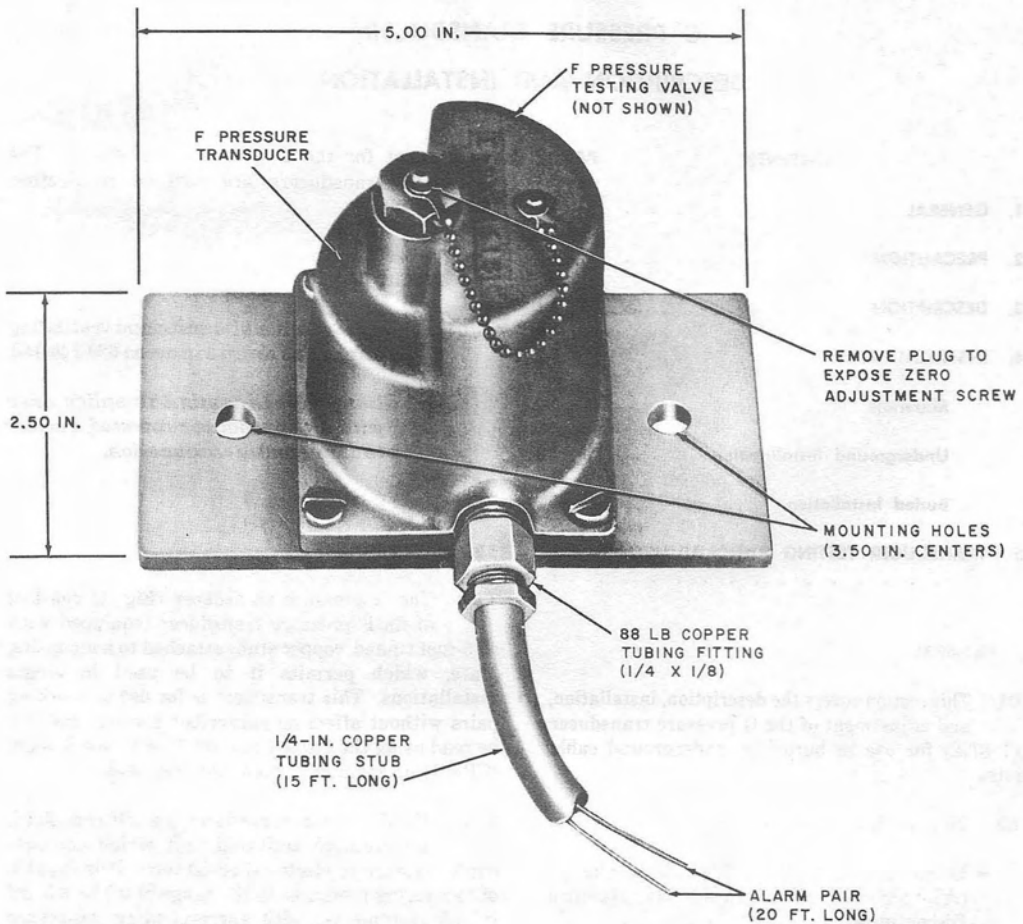

Fig. 1—G Pressure Transducer
3.01 The G pressure transducer (Fig. 1) consists of an F pressure transducer (equipped with a 15-foot tinned, copper stub) attached to a mounting plate, which permits it to be used in single installations. This transducer is for use on working pairs without affecting subscriber service, and can be read using the Cable Pressure Monitoring System (CPMS) or manually from the test desk.
**4.02** When required for underground installations, the G transducer (Fig. 1) and the associated materials should be installed as follows:
- (1) Attach the transducer to the manhole wall, away from splicing area, as follows:
- (d) Insert a screw through each mounting hole (Fig. 1) of the transducer into the anchor and turn it down until it seats firmly.
- (2) Prepare the copper tubing stub by cutting the tubing (using a tubing cutter) to a length which will reach between the transducer and the splice opening.
- (1) Remove the plug to expose the zero adjustment screw (Fig. 1).
- (2) Turn the zero adjustment screw (clockwise to decrease and counterclockwise to increase test desk voltmeter reading) until this reading ( $\pm 2.5$  volts) agrees with the cable pressure as indicated on the C pressure gauge.
- (3) At zero pressure the test desk voltmeter reading must be 50.0 volts  $\pm 2.5$  volts.
- (4) If the transducer adjustments per (2) and (3) cannot be accomplished, the following possibilities should be considered: